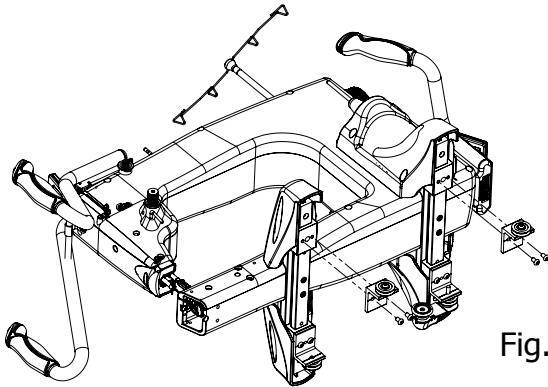

Fig. 3.3
Step 3: Gently tip your sewing machine onto its side. Using a 4mm Allen Wrench, unfasten the 2 screws that attach the vertical wheel brackets to one side of your sewing machine as shown in Fig. 3.3.